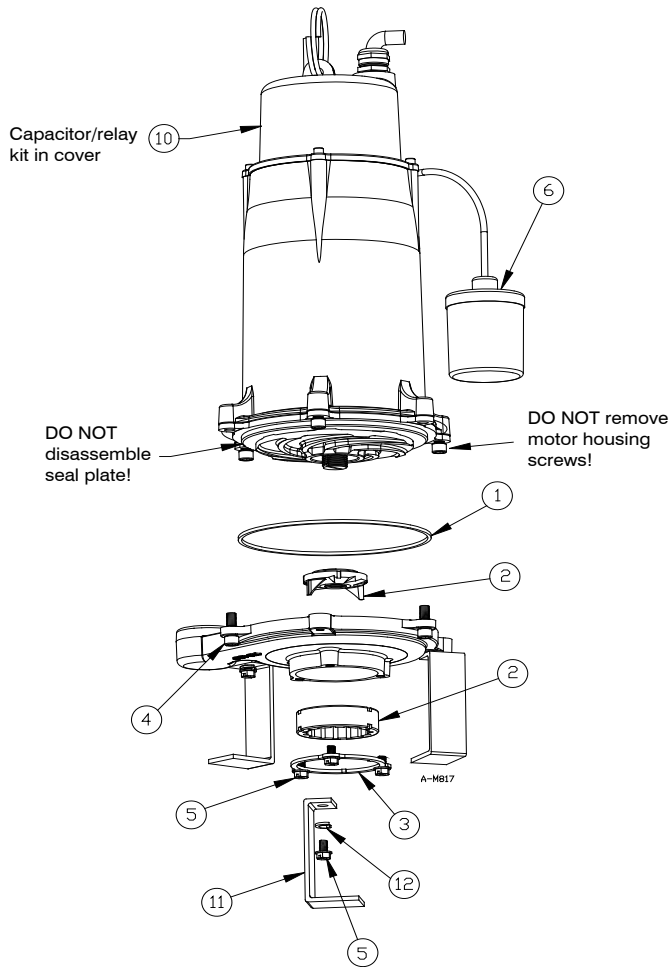

Figure 5
2. Scribe a mark between the seal plate and volute, then remove the three 1-1/2" hex head screws (Figure 5, item 5).
4. To gain access to the stationary cutter, remove the retaining plate by removing the three 1/2" hex head screws (Figure 5, item 6). **NOTE:** The stationary cutter can be removed from the volute without having to remove the volute.